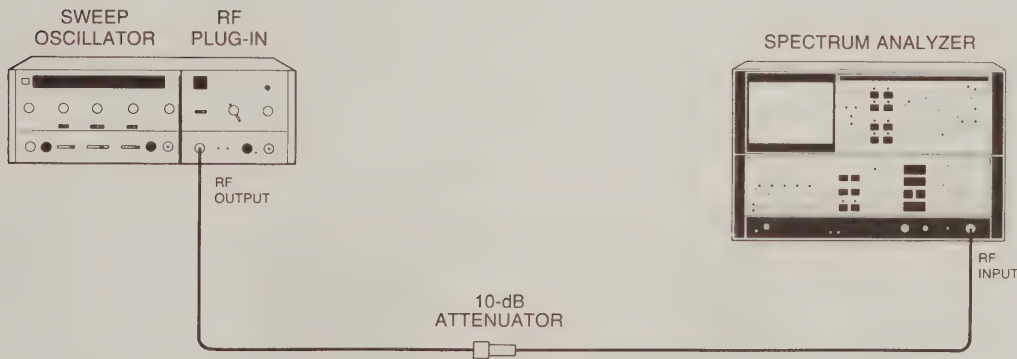

Figure 4-5. Residual FM Test Setup
- p. Connect equipment as shown in Figure 4-5. Allow 30 minutes warm-up time. Set controls as follows: